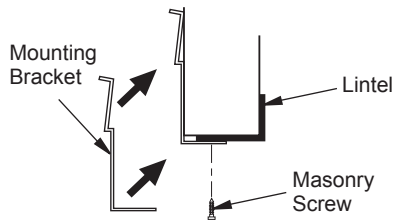

Figure 9 - Positioning Brackets for Masonry Fireplace without Glass Doors
- Tape the mounting brackets near the ends of the fireplace opening. Make sure to position brackets as shown in Figure 9.
4. Use the masonry screws provided to fasten brackets to lintel (see Figure 9, page 2).